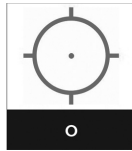

Fig. 1 558 reticle
The 558 is offered with one of the following (3) reticle options (see fig. 1):